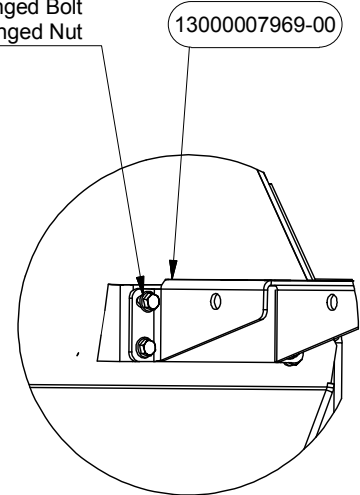

Figure 5
2. Attach Winch Bottom Mount Bracket (13000007969-00) to the welded on bracket on the boot using 4 bolts (13071206016) and 4 nuts (13073100006) as shown in Figure 5